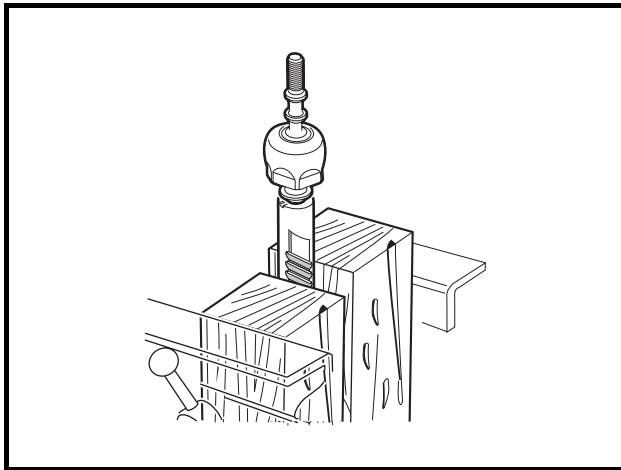

Figure 7-14 Secure Racks
- 13.1. Secure the rack and housing assembly in a vise (**Figure 7-14, Page 7-7**). See following **CAUTION**.